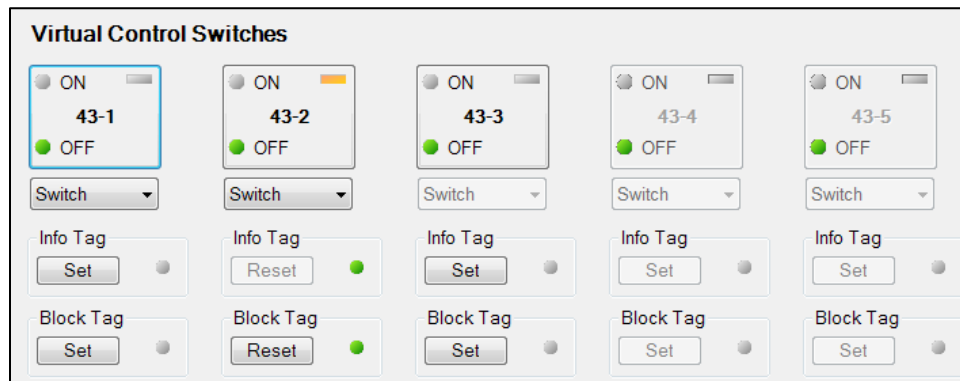

Figure 75-2. BESTCOMSPiplus Virtual Switches Control Screen
- Step 4: Use the Metering Explorer of BESTCOMSPiplus to open the Control, Virtual Switches tree branch (Figure 75-2). Using select-before-operate, perform the following steps to control a virtual switch.
- Step 3: Use the Metering Explorer of BESTCOMSP*lus* to open the Control, Virtual Switches tree branch (Figure 75-2). Using select-before-operate, perform the following steps to control a virtual switch.